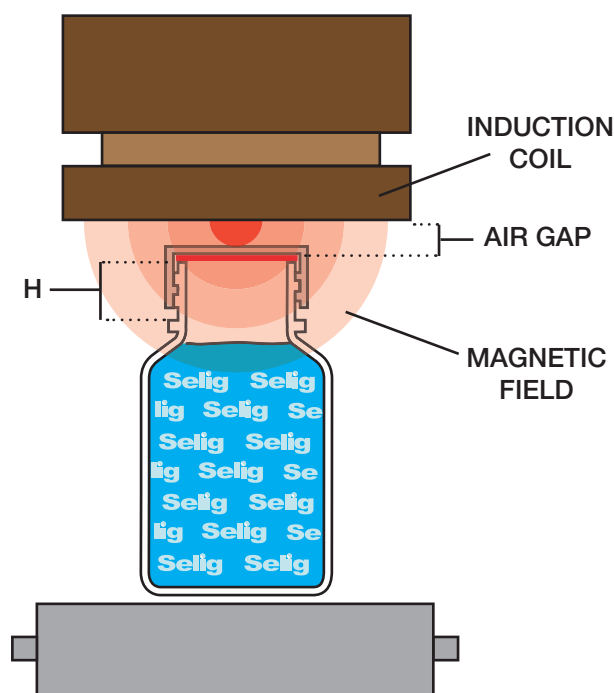

Figure 3b: Electromagnetic field generating heat
3. The design of the neck and threads of the container must be matched to the closure so that the closure will give even pressure to the land area and the skirt of the closure will not bottom out on the shoulder of the container. This is known as the 'H' dimension (see figure 3b) of the container and closure. If the land area of the container has any defects, such as high spots (at seams) or possible low areas (saddle), you will have uneven pressure.